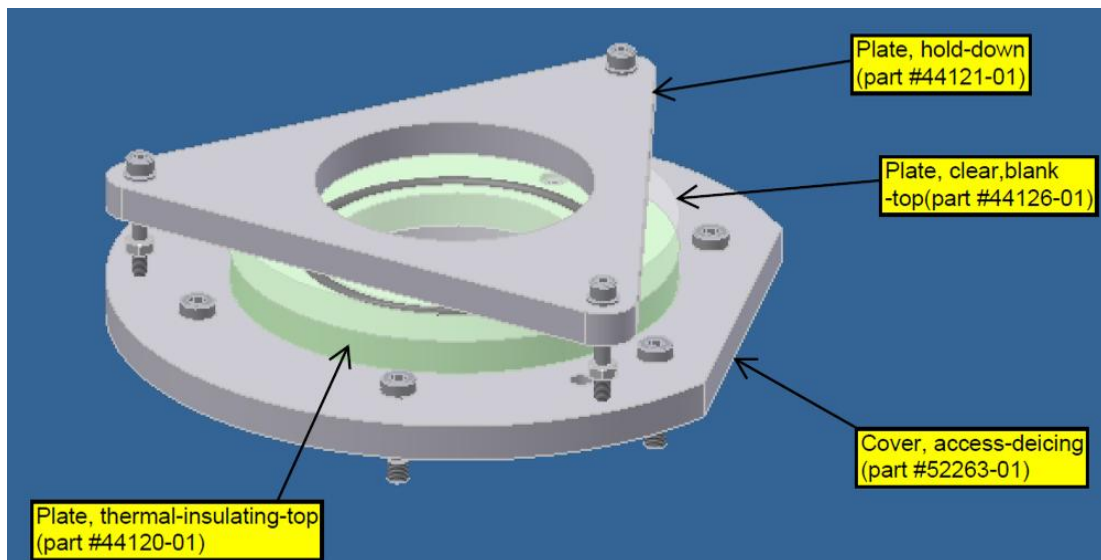

Figure 7-1B.
- For HFO OPEN-Y, with PMS No. beginning with JA through JE, use kit components described in Figure 7.1B.